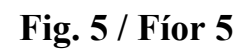

Fig. 5 / Fíor 5
5. The elevation and end elevation of a pump housing are shown in Fig 5.